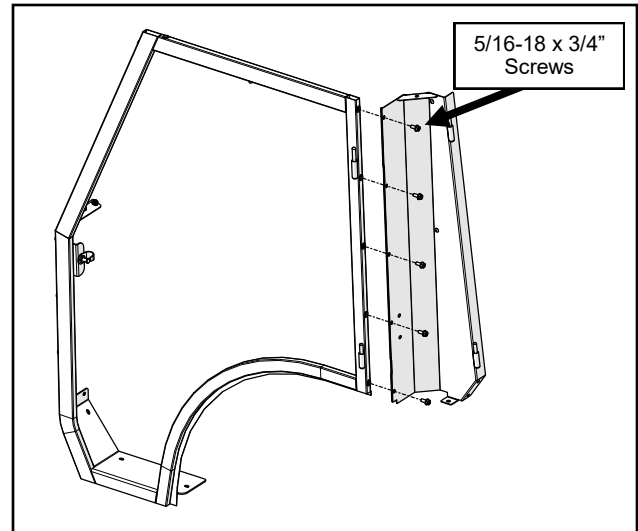

Fig. 3.1 (Assemble The Left Side Frame and Rear Leg)
- 3.1 Attach the left rear leg to the left side frame. See Figure 3.1. Align the top of the rear leg to the top of the side frame and tighten hardware.